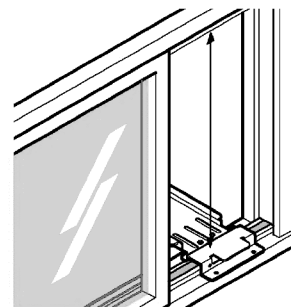

Figure 26
7. Measure height of window opening from top of Bracket assembly as shown Fig. 26. Subtract 20-3/4 inches. Mark this measurement on Curtain and cut the Curtain. (See Figure 26)